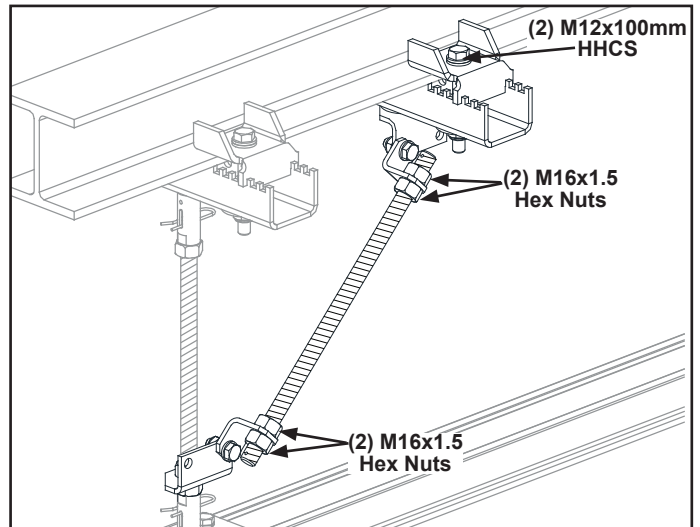

Figure 3-52
- Step 14. Install two (2) M16 x 1.5 hex nuts on both ends. Tighten four (4) M16 x 1.5 hex nuts on threaded rod to brackets. See Figure 3-52.
- Step 15. Tighten two (2) M12 x 100 mm HHCS bolts on the sway bar brace I-Beam bracket, alternating between sides, until I-Beam bracket is tight. **Tighten until bolts are snug + ¼ turn.** Do not over tighten. Over tightening could cause bracket to bend. Do not over tighten. See Figure 3-52.